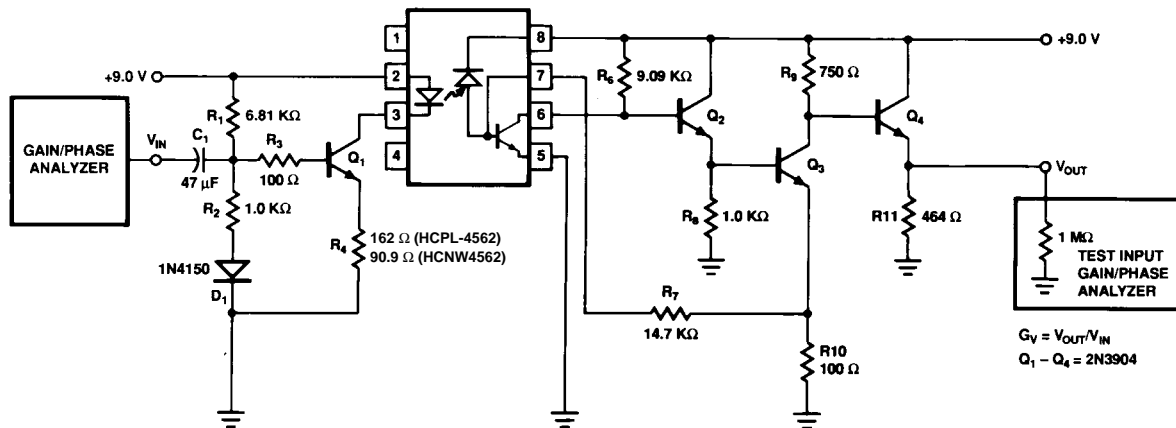

Figure 1. Gain and bandwidth test circuit.
- When used in the circuit of Figure 1 or Figure 4; $G_V = V_{OUT}/V_{IN}$; $I_{FO} = 6 \text{ mA}$ (HCPL-4562), $I_{FO} = 10 \text{ mA}$ (HCNW4562).